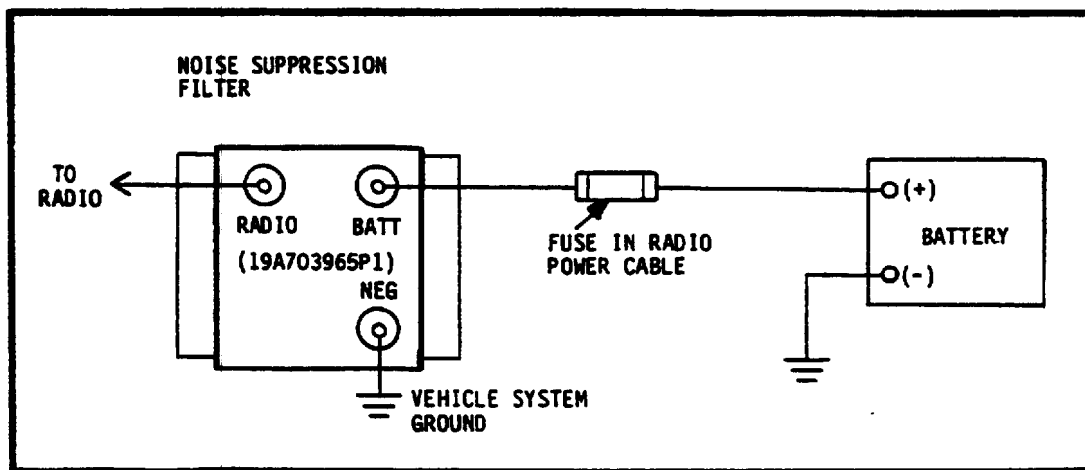

Figure 1 - Connection Diagram
4. Cut the radio + lead, strip, and terminate both ends of this lead with crimp-on terminals. Refer to Figure 1 and connect leads to RADIO and BATT terminals as shown.